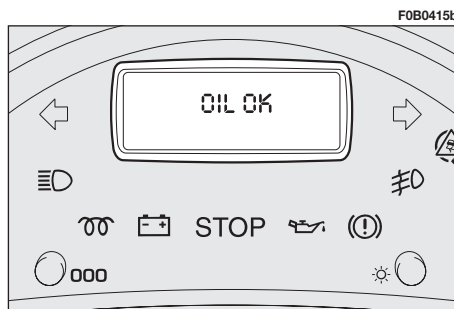

fig. 81
**Fig. 81** shows the correct oil level condition. Flashing of the wording “OIL”, together with the sound of the buzzer and the dedicated message indicate low engine oil level. Flashing of wording “OIL –” indicates an engine oil level sensor failure.